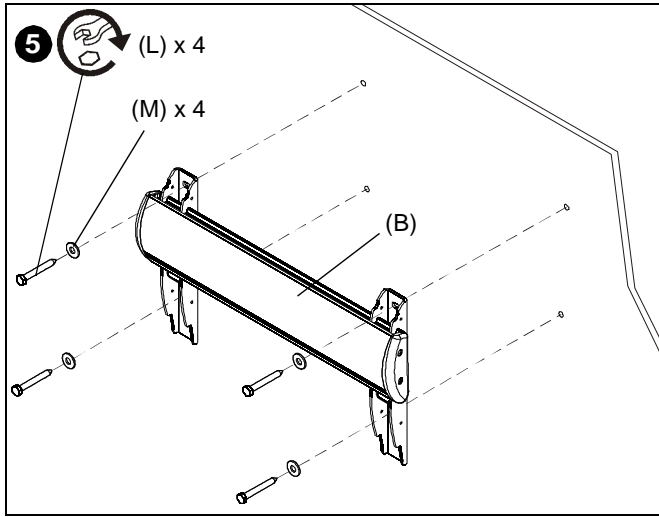

Figure 7
- Install four 5/16 x 2-1/2" hex head lag screws (L) through four 5/16" washers (M), holes of wall bracket and into drilled holes. (See Figure 7)